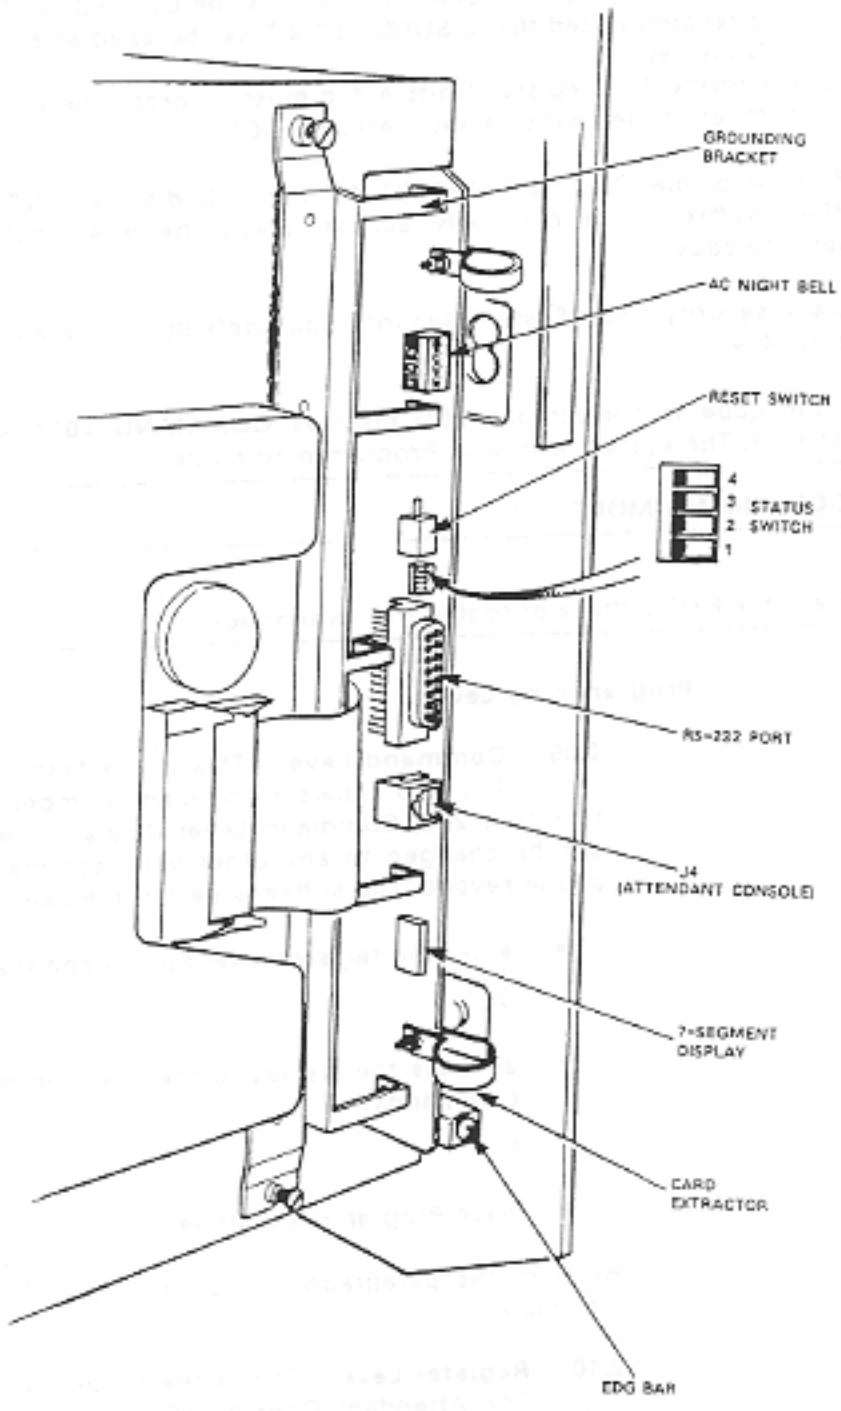

Figure 2-1 Control Card Connectors
- 2.04 Status Switch 1 on the edge of the Control Card (see Figure 2-1) controls whether a security code is required for programming access. It is recommended that before the cover is locked this switch be set OPEN (Security Code Required) to prevent unauthorized access to the database.
- With the system power OFF, set all the Control Card status switches OPEN. Refer to Figure 2-1, Control Card Connectors.
- If the Power Supply is OFF, switch it ON. If it is ON, press RESET. Refer to Figure 2-1, Control Connectors.